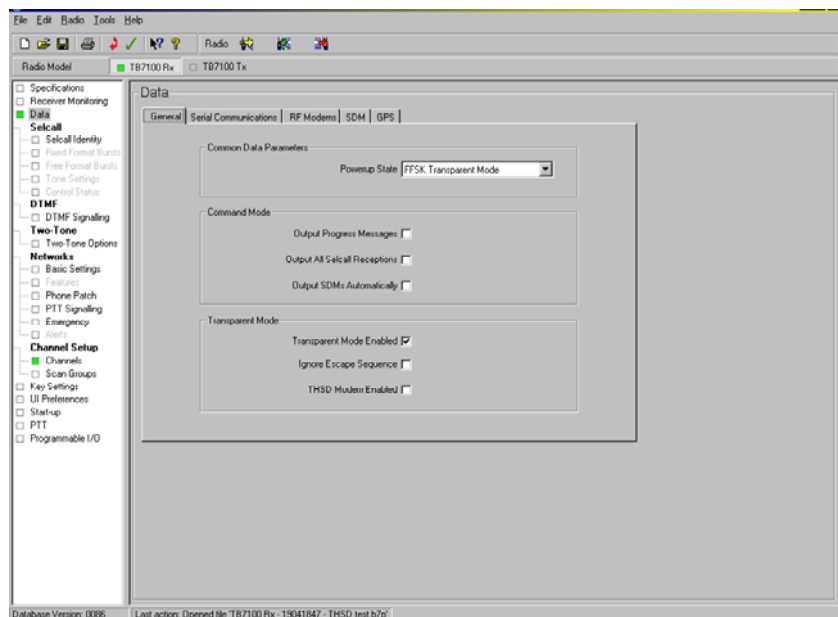

Figure 3
- Under Data>General set the 'Power up State' for FFSK transparent mode and select 'Transparent Mode Enabled'. Leave all other options unselected. **Refer to figure 3.**